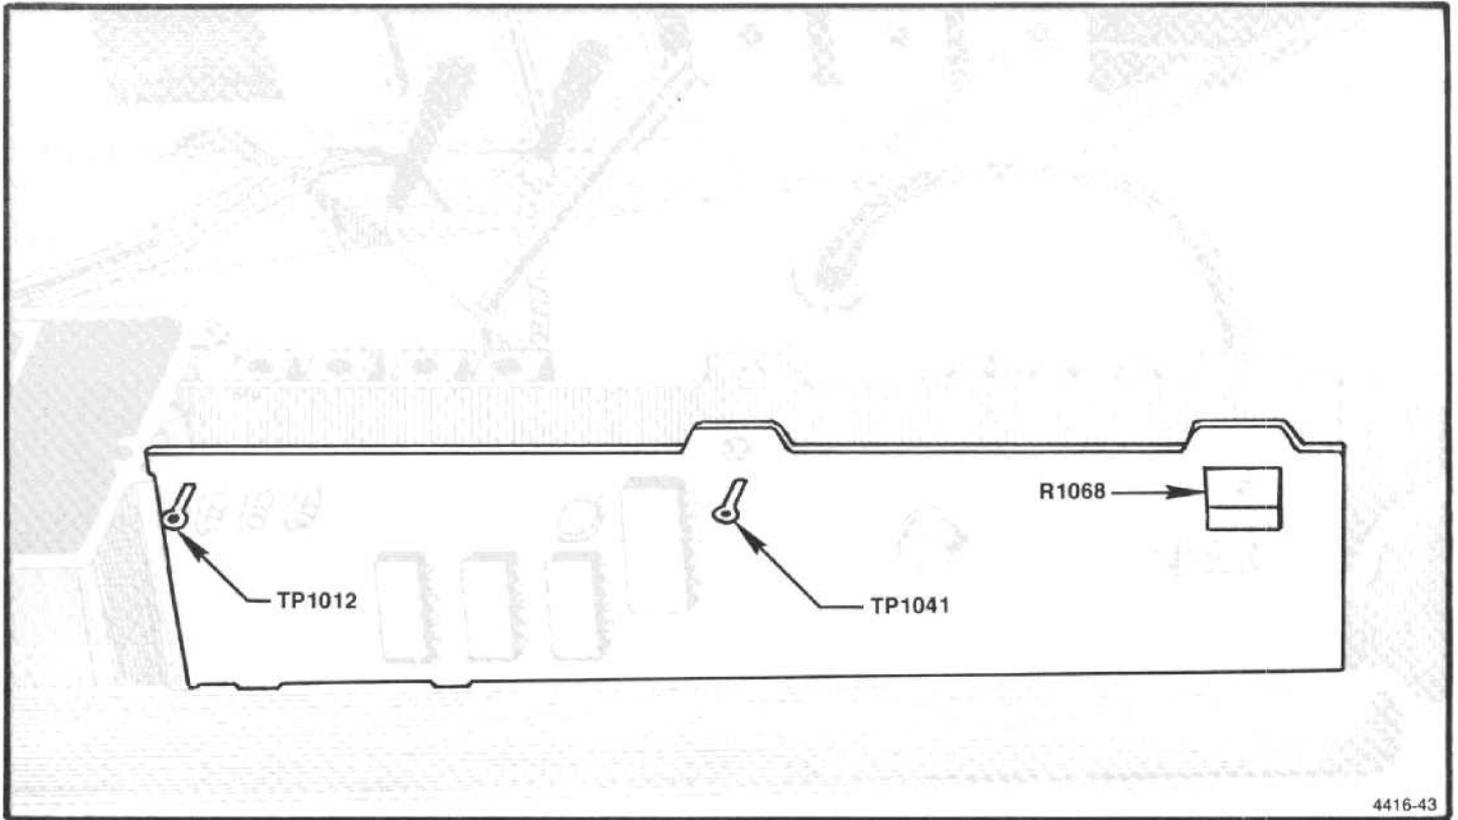

Figure 5-8. Timing adjustments and test points on the Sweep board.
c. Adjust Sweep Timing R1068 (see Figure 5-8) for 1 marker/division. (Use Horizontal Position adjustment to align markers with graticule lines.)